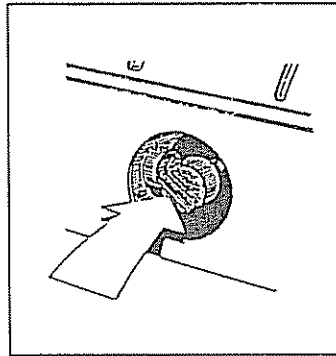

FIG. 7
- Open the fuel shutoff valve (Fig. 7).
- Close the Fuel Shutoff Valve (Fig. 7).